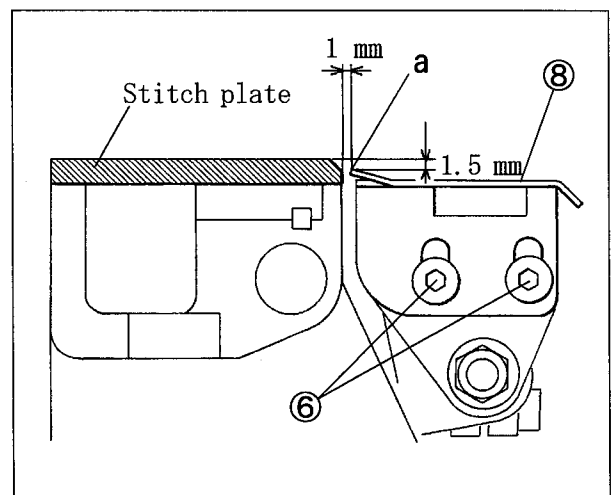

Fig. 9
(5) Loosen the screw ⑨ to make the clearance between the tip "a" and the stitch plate to about 1 mm with the stop ⑩ when setting the folder ⑦. Tighten the screw ⑨ securely. (Figs. 9 and 10)
(6) Install the supporting plate ⑪ on the cylinder of the machine ⑫ to support the fabric guide support ⑧.